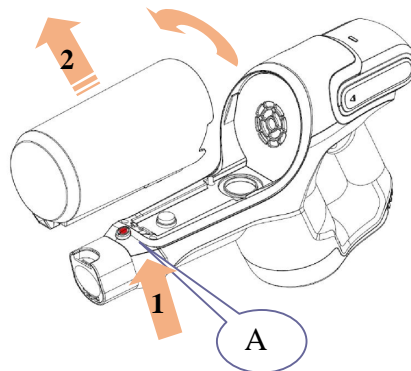

Figure 7a
Press the dust container release button (A) and pull out the dust container from main unit as indicated in Figure 7a.